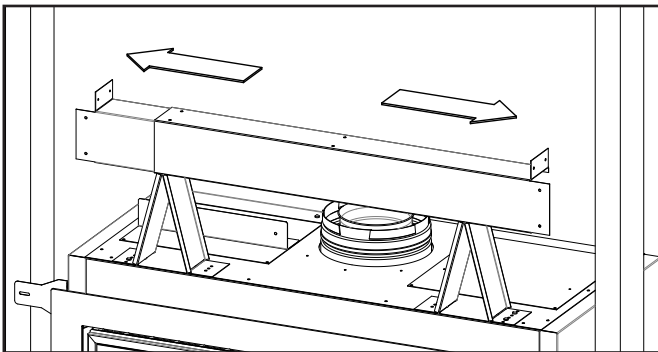

Figure 20: Steel Stud Placement
- Place the steel stud onto the top standoffs and slide outwards until both ends make contact with the framing studs (see Figure 20).